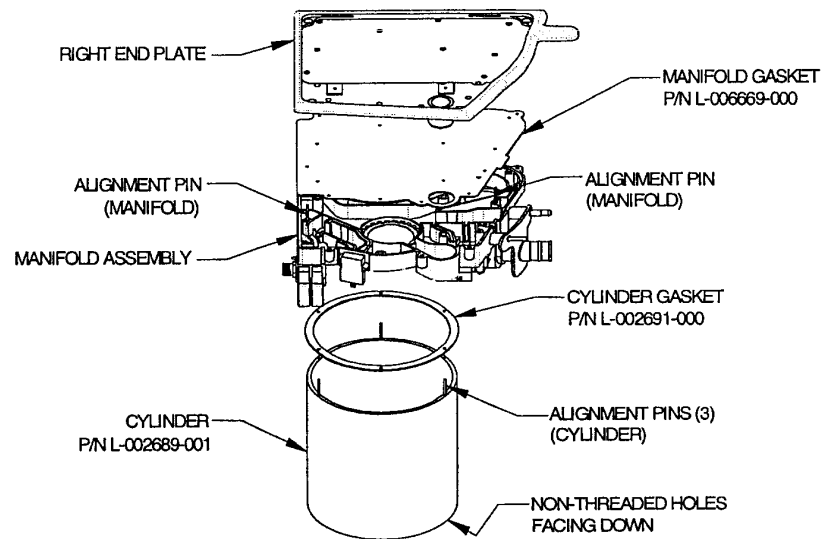

FIGURE 4-25.
2. Insert 3 alignment pins in the top of the cylinder, 1 into every other hole. See Figure 4-25.
6. Insert 2 more alignment pins into the manifold. See Figure 4-25.